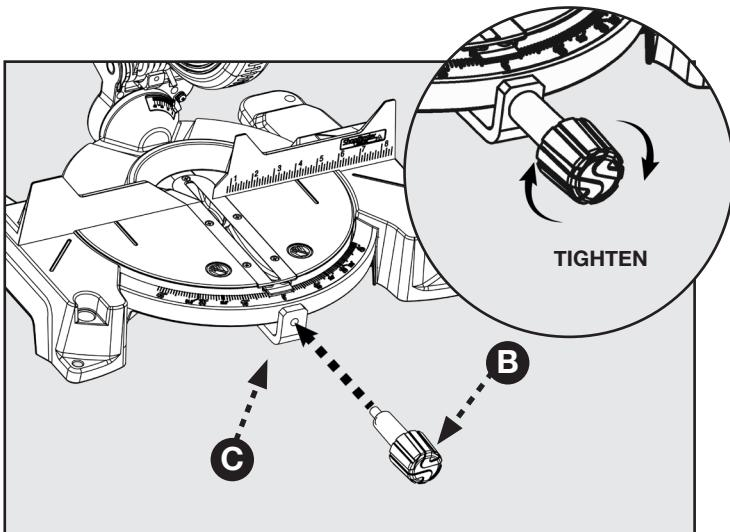

FIGURE 6
1. See Figure 6 and attach the mitre lock knob by screwing the end of the mitre lock handle (B) into the threaded hole (C) in the control arm. Tighten by rotating the lock knob clockwise.